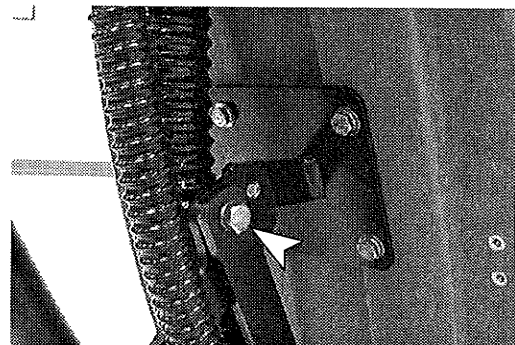

FIG. 11
1. Remove screw from lift handle linkage as shown, 0.5 inch wrench required (Figure 11).